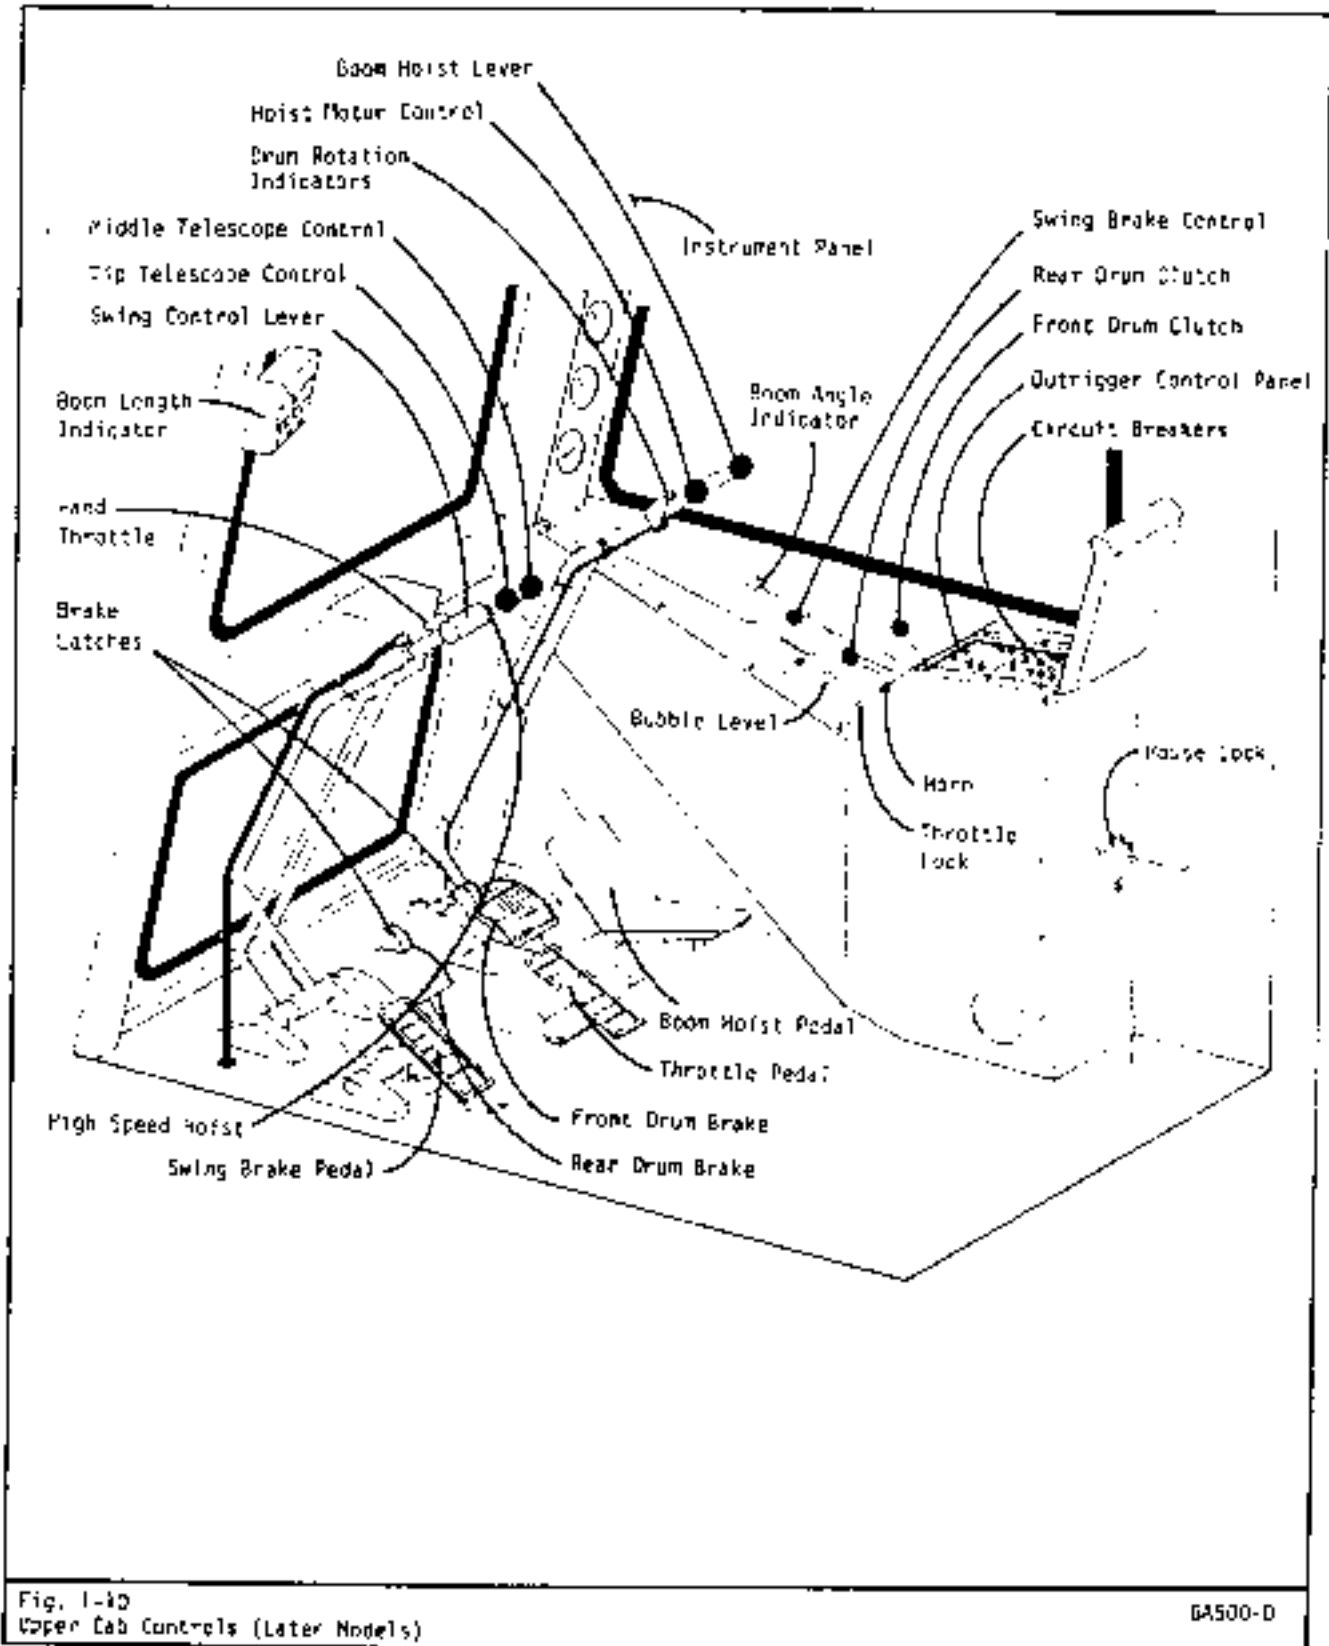

Fig. 1-10
**Note:** Many of the operating controls have been changed or rearranged from early to later models. The operator must be familiar with the controls on his machine prior to operating. Refer to Fig. 1-9 for early model controls and Fig. 1-10 for later models.